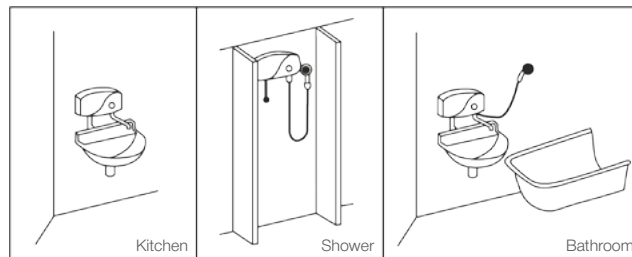

Fig. 1
2. Possible installation options of the water heater are given in Fig. 1.